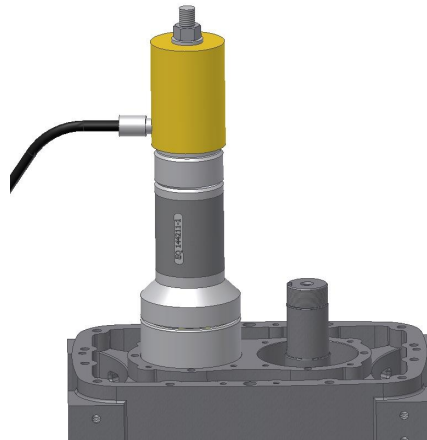

Figure 9-7 – BEARING INSTALLATION
25. Using a depth micrometer, measure and record distance from top surface of outer ring of false bearing to top surface of inner ring. Inner ring of the false bearing should extend above the outer ring .005-.007". If inner ring does not extend above outer ring .005-.007", lower rotor and remove eye bolt and false bearing. Install required shims (8) to achieve proper gear-end clearance. Repeat steps 23 through 25 if necessary.
28. Apply AEON PD oil to drive and idler rotor bearing bores in the gear-end bearing housing as well as internal surfaces and rollers of double angular contact bearings (14). Drain excess oil from bearing before installation. Oil should not be dripping from bearing in mounted position.
29. Install bearing by placing bearing over idler rotor shaft with identification numbers facing up. Thread 3/4" pull rod into end of idler rotor shaft. Place bearing driver EQ144211-1 over pull rod. Place a portable hydraulic cylinder over pull rod and onto driver tool. Install 3/4" flat washer and nut onto pull rod and tighten it up against hydraulic cylinder. Reference FIGURE 9-7. Press bearing onto rotor shaft using hydraulic cylinder.
35. Install spherical roller bearing (13) by placing bearing over drive rotor shaft with identification numbers facing up. Thread 3/4" pull rod into end of idler rotor shaft. Place bearing driver EQ144211-1 over pull rod. Place a portable hydraulic cylinder over pull rod and onto driver tool. Install 3/4" flat washer and nut onto pull rod and tighten against hydraulic cylinder. Press bearing onto rotor shaft using hydraulic cylinder. Reference FIGURE 9-7.